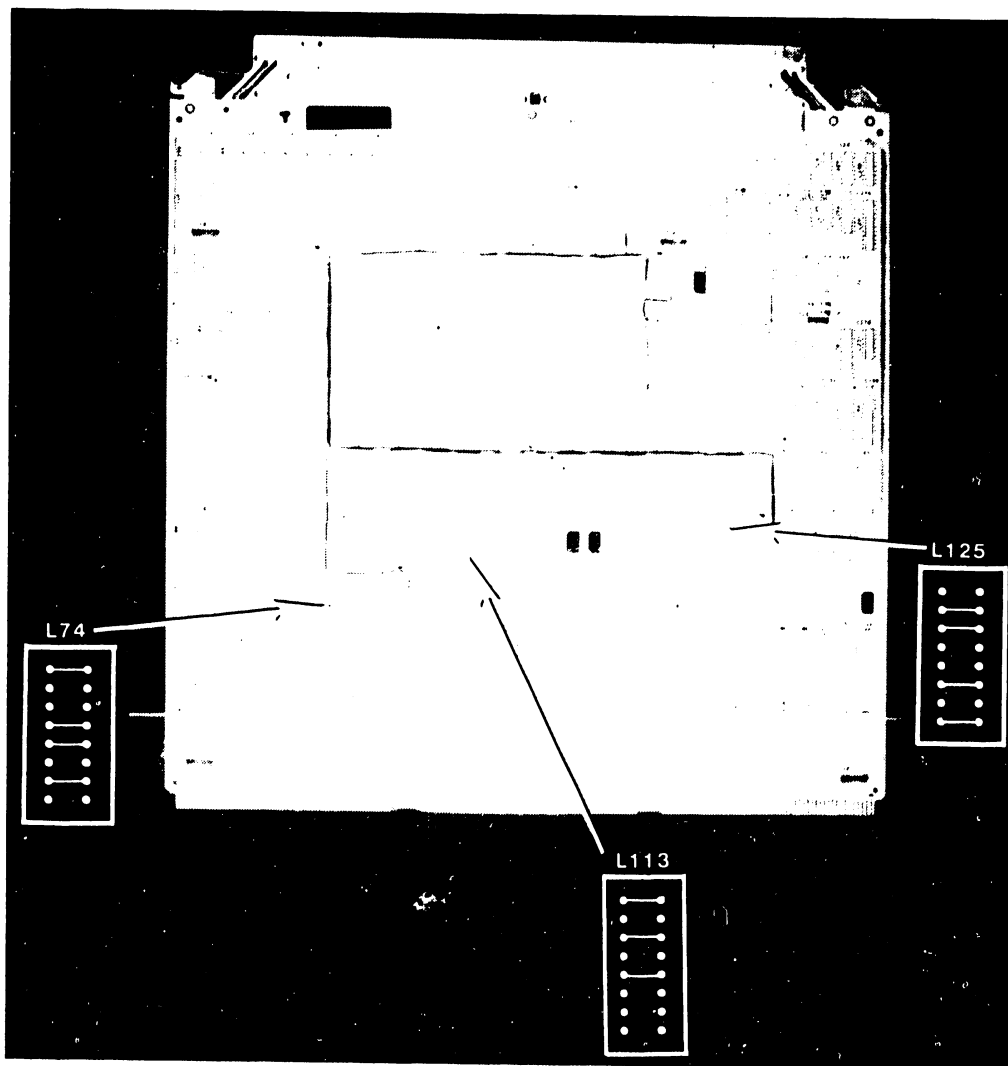

Figure 7-16. 210-9836 System Bus Interface
1. Remove the System Bus Interface(s) (SBI) (figure 7-16) from SBI back-plane slot(s) #0 or #1 in the manner described in 7.2.4.1.
2. After checking the I/O Clock Speed jumpers at L125, SBI Identification jumpers at L74, and SPB (Support Packet Bus) Target ID jumpers at L113 (figure 7-16), install the new SBI.